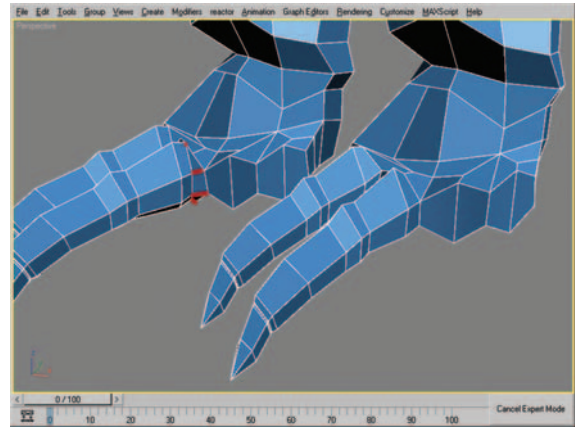

Figure 9.75 Edge-ring selection (left) and mesh after collapsing edges (right). A row of polygons has been eliminated.
37. At the Edge subobject level, select the edge ring that composes the new row of polygons (Figure 9.75, left). Use Collapse to eliminate the polygons (Figure 9.75, right).